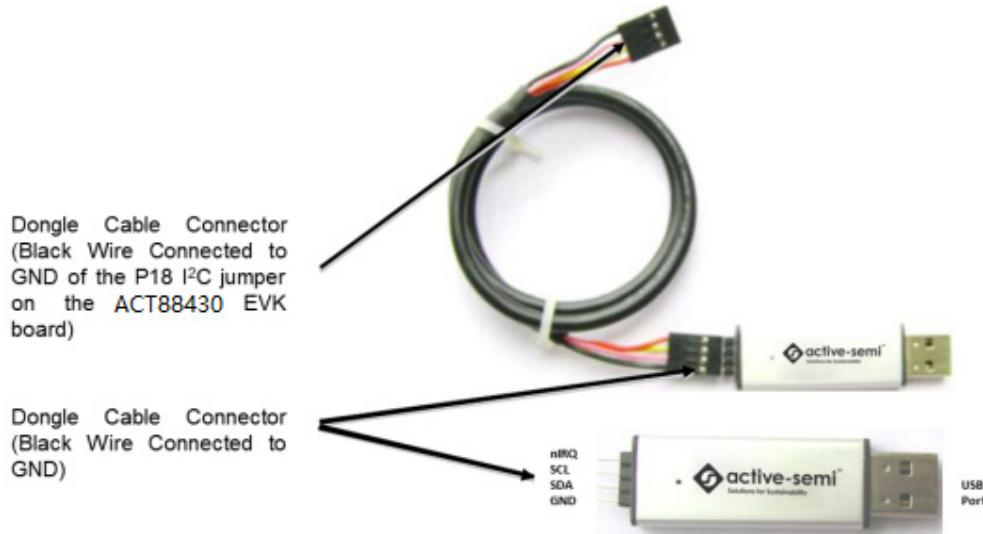

Figure 4 – USB-TO-I2C Dongle Connection
3. Connect the USB-TO-I2C dongle to the EVK J15 connector. Refer to Figure 4 to ensure the correct polarity of the connection. As a guide, use the "Active-Semi" logo on the top of the dongle so the black wire is connected to the Dongle GND pin.